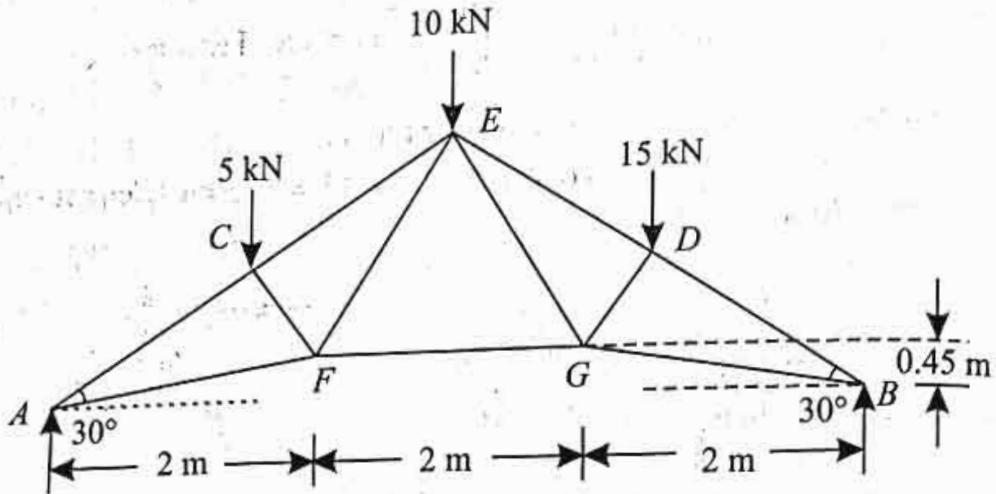

Fig. 11.23.
5. The roof truss shown in Fig. 11.23 is supported at A and B and carries vertical loads at each of the upper chord points.